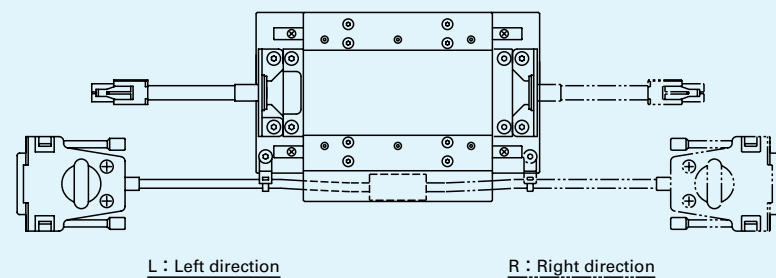

Fig.1 Cord directions
① Type	NT...V : Nano Linear NT...V
② Size	55 : Width 55mm 80 : Width 80mm
③ Stroke length	25 : 25mm 65 : 65mm 120 : 120mm (Applicable to NT80V)
④ Encoder interface specification	1 : 0.1 μm 5 : 0.5 μm
⑤ Cord direction	L : Left direction R : Right direction Cord direction is selected from Fig.1 shown below.